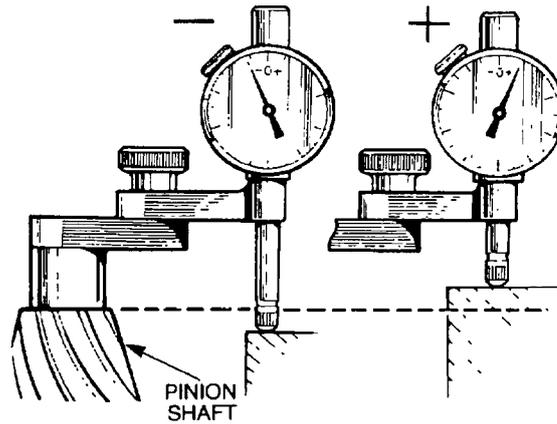

Figure 244 Examples of Pinion Shaft Height Using Dial Indicator
- w. If the stylus has moved down, the amount is equivalent to the thickness of shims that must be removed from under the pinion inner bearing cup to bring the pinion down to the nominal position (Figure 244).
- x. If the stylus has moved up, the amount is equivalent to the additional thickness of shims required to bring the pinion up to the nominal position (Figure 244).